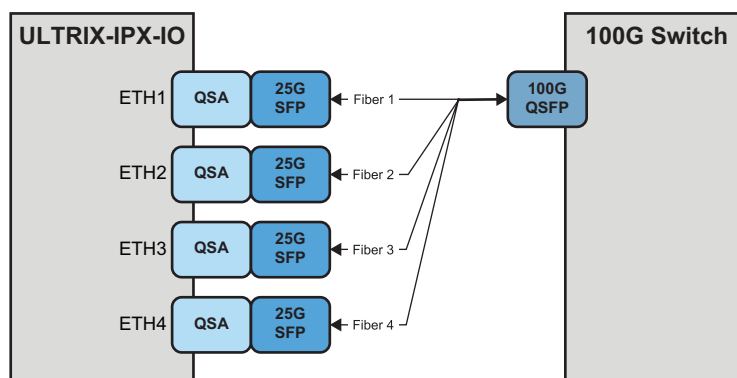

Figure 42 Workflow — QSA/SFP to Breakout/QSFP and 100G Switch with Breakout
**Figure 42** shows a simplified workflow where the ULTRIX-IPX-IO provides bi-directional communication via four QSA (QSFP to 25G SFP adapter) using fiber cables connected to a 100G ethernet switch. Notice that this workflow does not support a redundant switch. If a separate networks is required, configure primary/secondary ports to different VLANs or subnets.